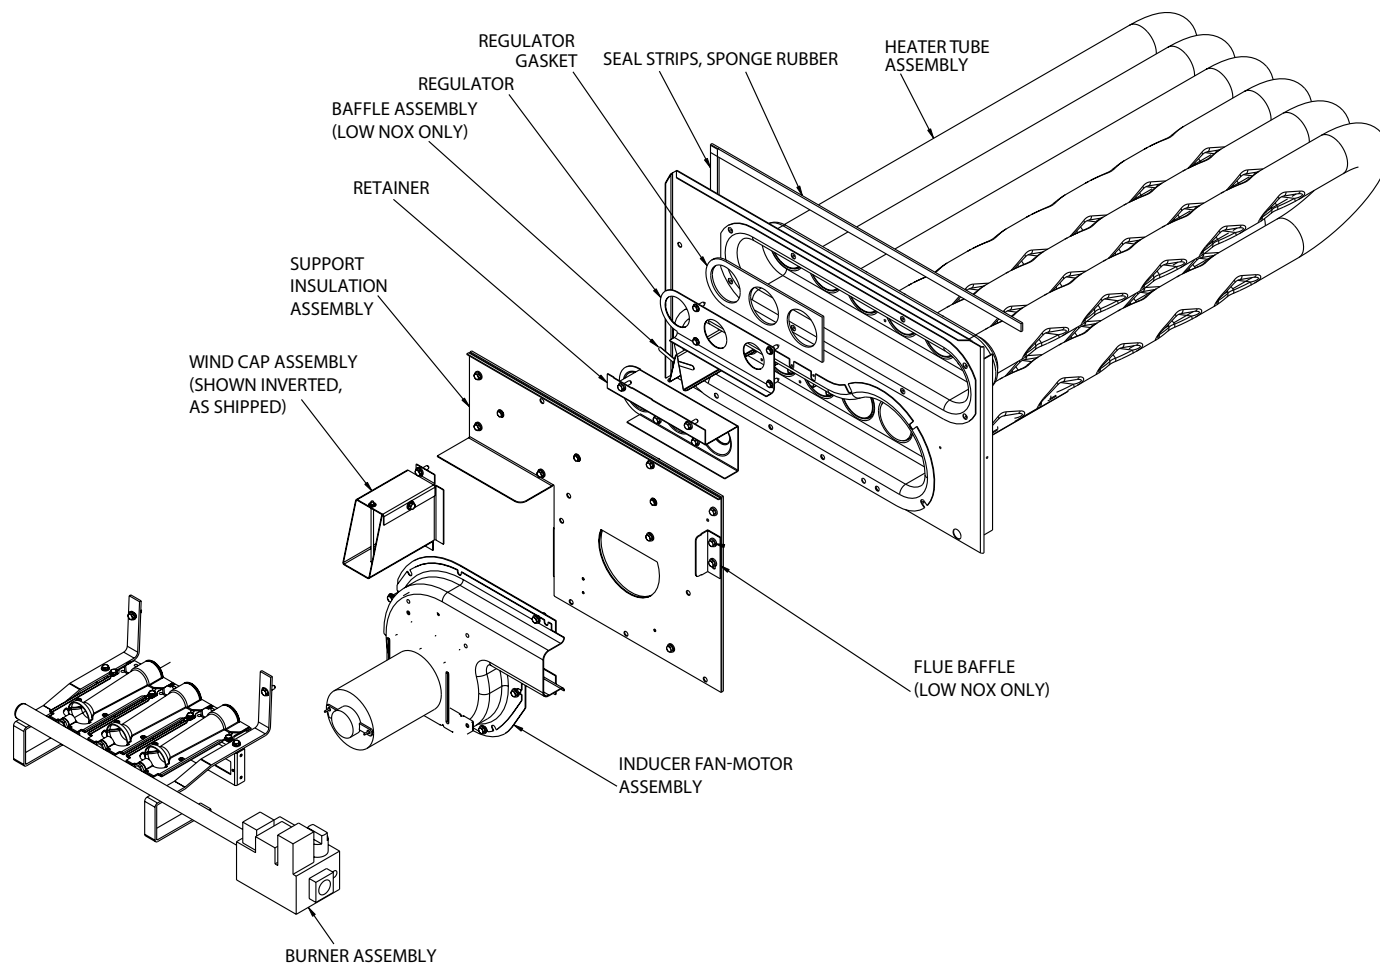

Fig. 49 — Typical Heat Exchanger Assembly
1. Remove the combustion blower wheel and motor assembly according to directions in the Combustion-Air Blower section. See Fig. 49.
1. Remove the seven screws attaching the induced-draft motor housing to the vestibule plate. See Fig. 49.